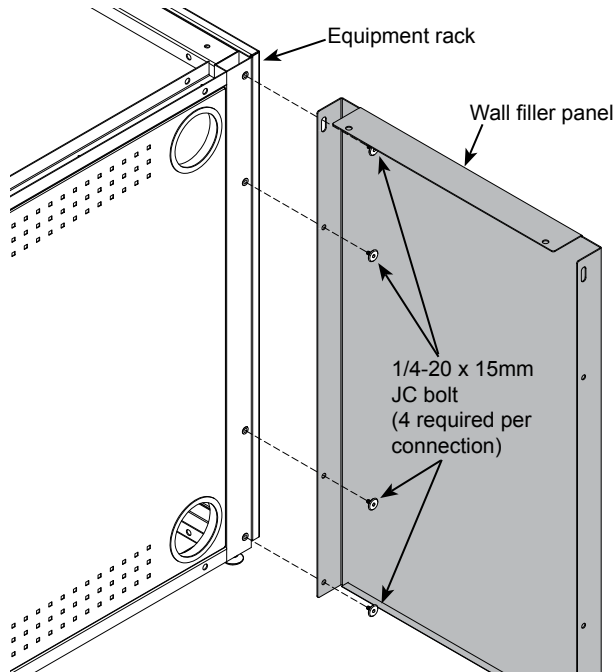

Figure 3A
1. Align the wall filler panel mounting holes as shown. **Figure 3A**.
2. Attach with (4) 1/4-20 x 15mm JC bolts. (Locknuts not required.)